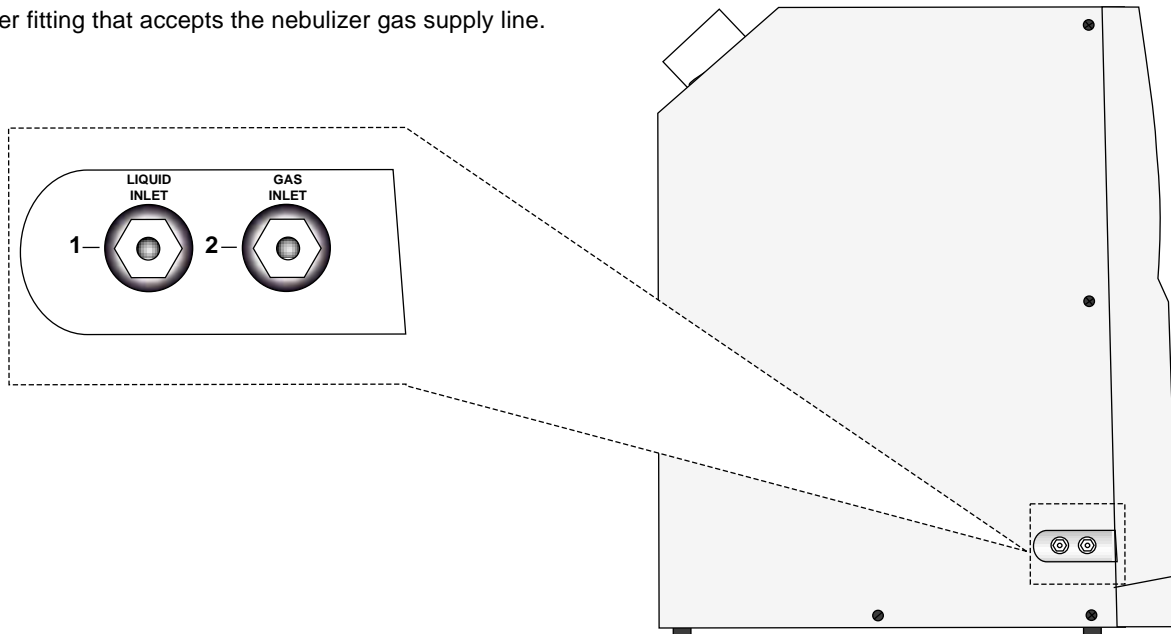

Figure 2.2
2.3.2 LEFT SIDE PANEL (Figure 2.2)